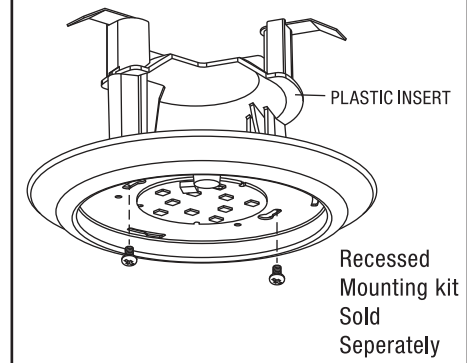

FIG. 3
3. Detach the 2 halves of the luminaire disconnect, insert black and white wires of fixture into non-wired half of luminaire disconnect following colour code marked on connector. (Fig. 3)